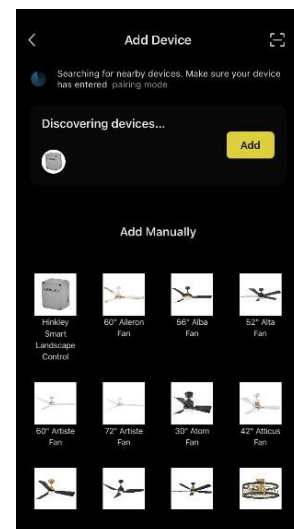

Figure 1: Discovering Devices Interface
5. When in pairing mode, your smart transformer should automatically appear under “Discovering devices...” Once found, select “Add.” (See Fig. 1)